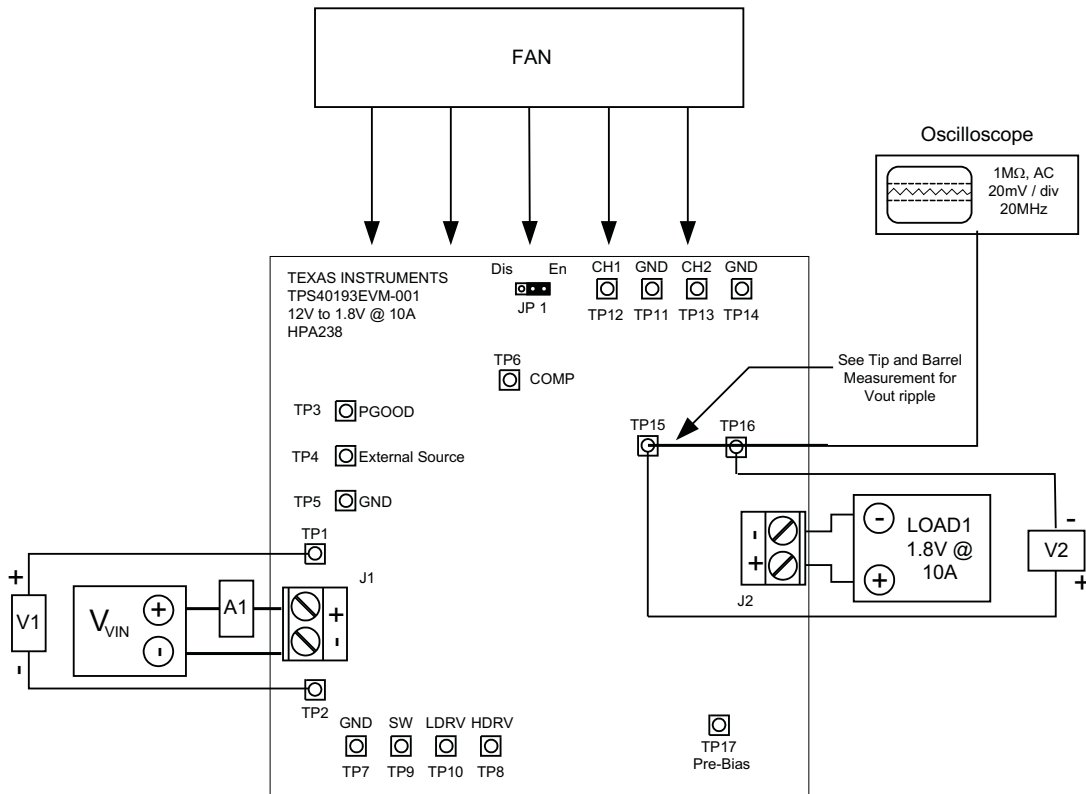
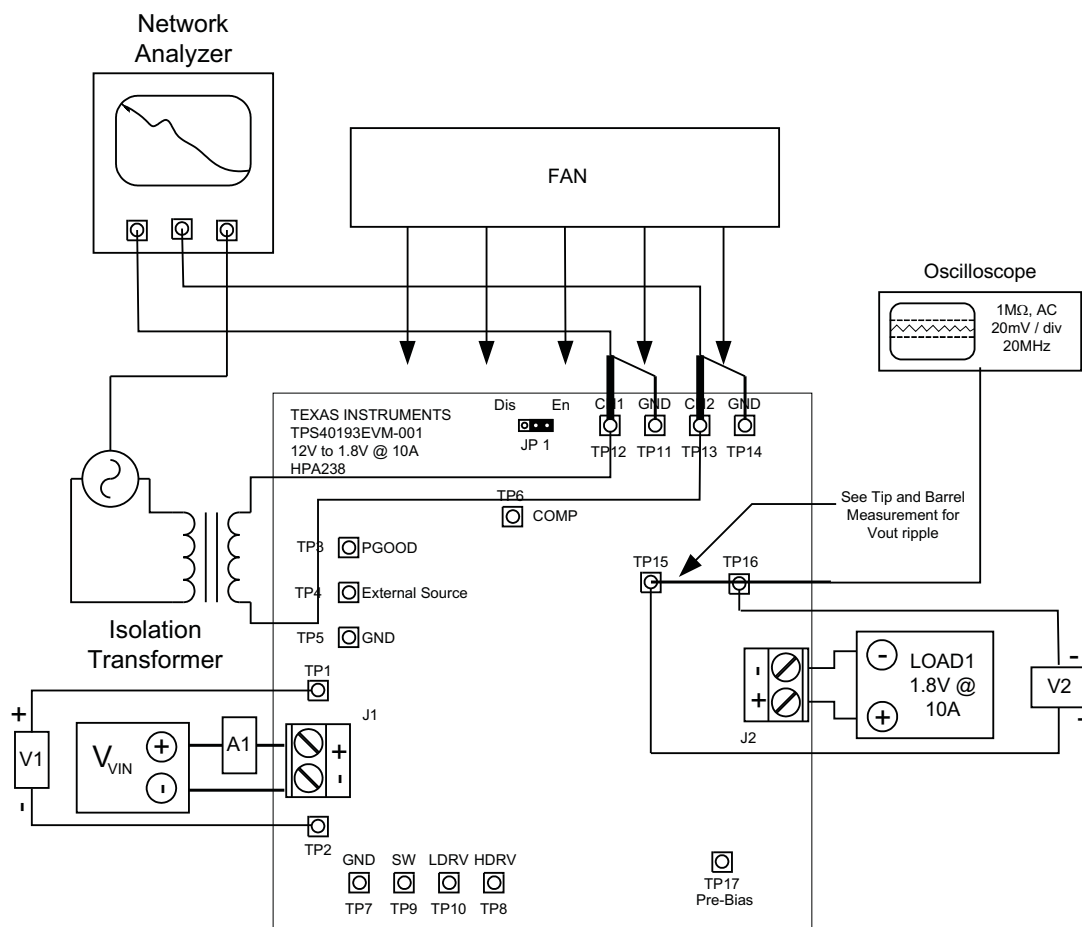

Figure 2. TPS40193EVM-001 Recommended Test Setup
Figure 4. TPS40193EVM-001 Control Loop Measurement Setup
V_{IN}: The input voltage source (V_{IN}) should be a 0V–15V variable dc source capable of 5A_{DC}. Connect V_{IN} to J1 as shown in Figure 2.
Figure 2 through Figure 4 show the basic test setup recommended to evaluate the TPS40193EVM-001. Please note that although the return for J1 and J2 are the same, the connections should remain separate, as shown in Figure 2.
- Step 1. Connect 1kHz–1MHz isolation transformer to TP12 and TP13 as shown in Figure 4.
- Step 2. Connect input signal amplitude measurement probe (Channel A) to TP12 as shown in Figure 4.
- Step 3. Connect output signal amplitude measurement probe (Channel B) to TP13 as shown in Figure 4.
- Step 4. Connect ground lead of Channel A and Channel B to TP11 and TP14, as shown in Figure 4.